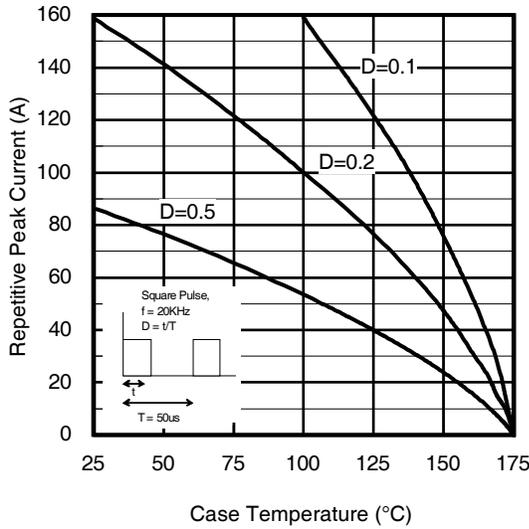

Fig 19. Maximum Diode Repetitive Forward Peak Current vs. Case Temperature
- ① $V_{CC} = 80\% (V_{CES}), V_{GE} = 20V, L = 200\mu\text{H}, R_G = 10\Omega.$
- ② Pulse width limited by max. junction temperature.
- ③ Refer to AN-1086 for guidelines for measuring $V_{(BR)CES}$ safely.
- ④ fsw = 20KHz, refer to figure 19.
- ⑤ Sinusoidal half wave, t=10ms.